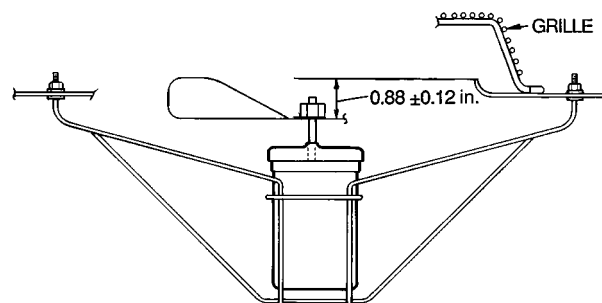

Fig. 40 — Outdoor-Fan Adjustment
4. Adjust fan height on shaft using a straightedge placed across venturi and measure per Fig. 40.